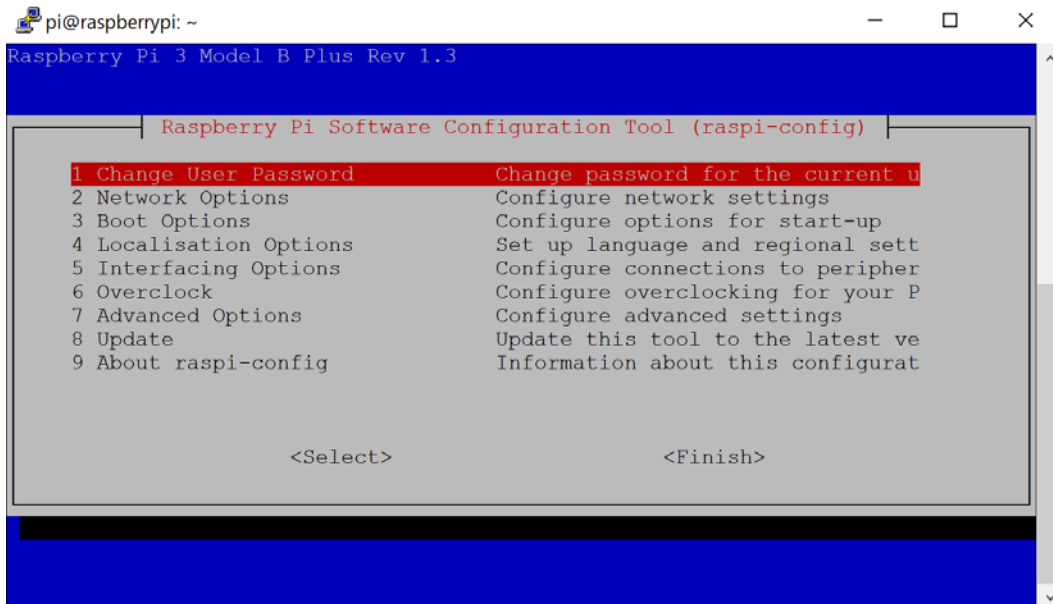

Figure 4.8 – Changing the password
1. In the top menu of `raspi-config`, select **Change User Password** (*Figure 4.8*):